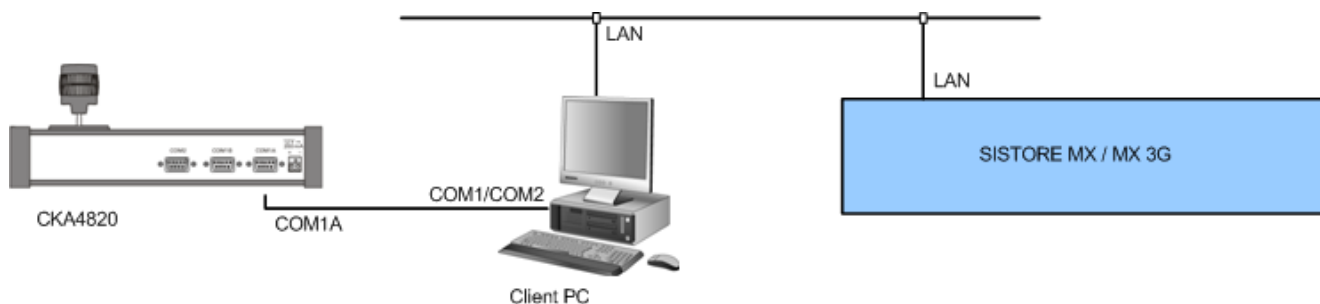

Fig. 8 SISTORE RemoteView – CKA4820 system overview
1. Connect the CKA4820 control panel to the client PC (see Fig. 8).